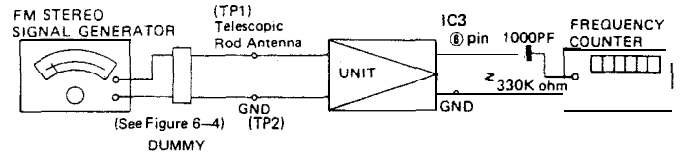

Figure 6-3
- As shown in Figures 6-3 and 6-4, connect instruments.